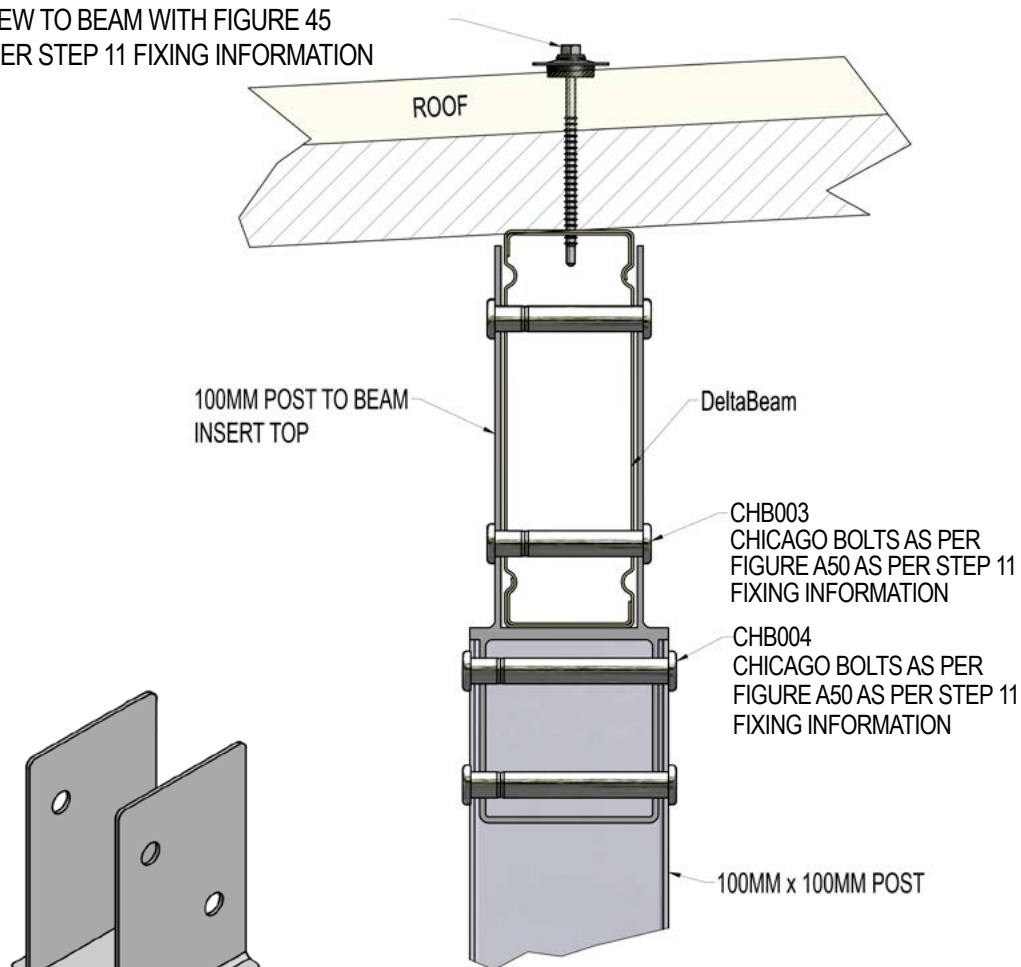

Figure A27
STEP 8**SELECT BEAM TO POST CONNECTION TYPE****Delta™ Steel or Aluminium Beam to Post (see Figure A27)**